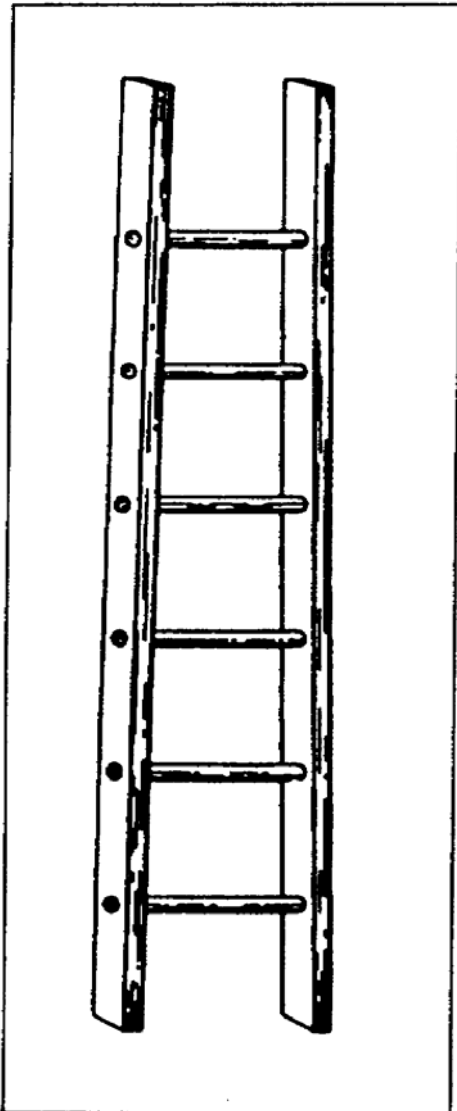
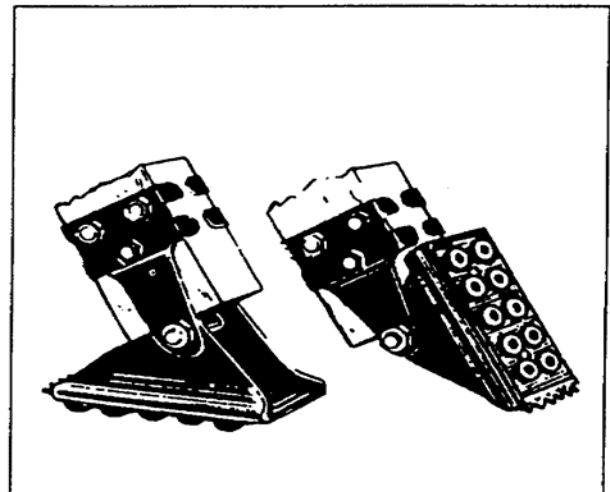

Figure 4-1. Single-rung woodladder
Figure 4-2. Ladder safety shoes
a. Single-Rung Ladder. A single-rung ladder consists of two side rails that measure from 8 to 30 feet in length. Between the side rails, rungs (steps) are spaced 12 inches apart. Each rung is capable of supporting weights up to 500 pounds. The size of a ladder is determined by its overall length. Although single-rung ladders are available in lengths of up to 30 feet, it is better to avoid ladders that are over 20 feet because of the difficulty in raising them. Figure 4-1 shows a typical single-rung wood ladder. To help keep the bottom of the ladder from slipping, it is necessary to equip it with ladder safety shoes or spikes (Figure 4-2).